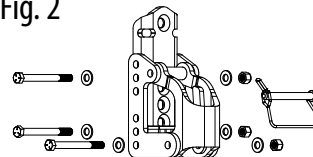

Fig. 3
- Remove the Side Straps and rotate the Hook-up Bracket 180 degrees (See Fig.3).